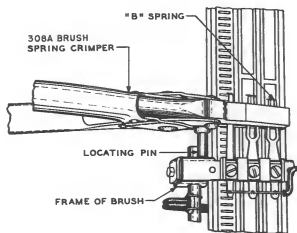

Fig. 13 — Method of Crimping the B Spring With the 308A Brush Spring Crimper
3.33 B Spring of Brushes Used With the 3G Commutator (where wiper is not furnished): To meet the requirements covering the setting of the B brush spring on the commutator, crimp the B spring as follows. With the brush in the normal or down position, grasp the 308 brush spring crimper loosely in the right hand and introduce the straight jaw between the front spring of the brush and the right-hand side of the commutator about 1/8 inch below the contact portion of the spring. Hold the tool so that the jaw is parallel to the surface of the commutator and thrust it to the rear as far as it will go. Then lower it until its locating pin rests on the top of the frame and its shoulder rests against the front edge of the commutator as shown in Fig. 13. Holding the tool so that the jaws are horizontal, close the jaws steadily and firmly to a complete stop so that the crimp is formed and the portion of the spring above the crimp lies in the same plane as the portion below it. Make sure that the spring is located properly as covered in Section 026-120-701.